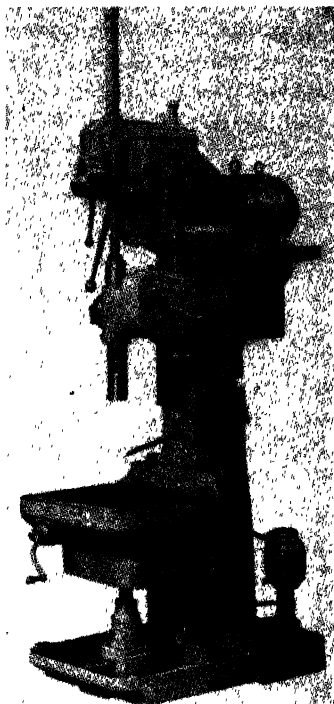

Fig. 7-2. A standard floor-model superservice drill press with a cutting lubricant system. (*The Cincinnati Bickford Tool Company*)
**The Standard Drill Press: Floor Type.** This machine (Fig. 7-2), sometimes called upright drill press or simply drill press, has six or more spindle speeds and three or more automatic feeds. Most drill presses have circular columns, although some have square box-section construction. The head, which carries the sleeve, spindle, and feed gears, is in many models bolted to the frame and, to ac-